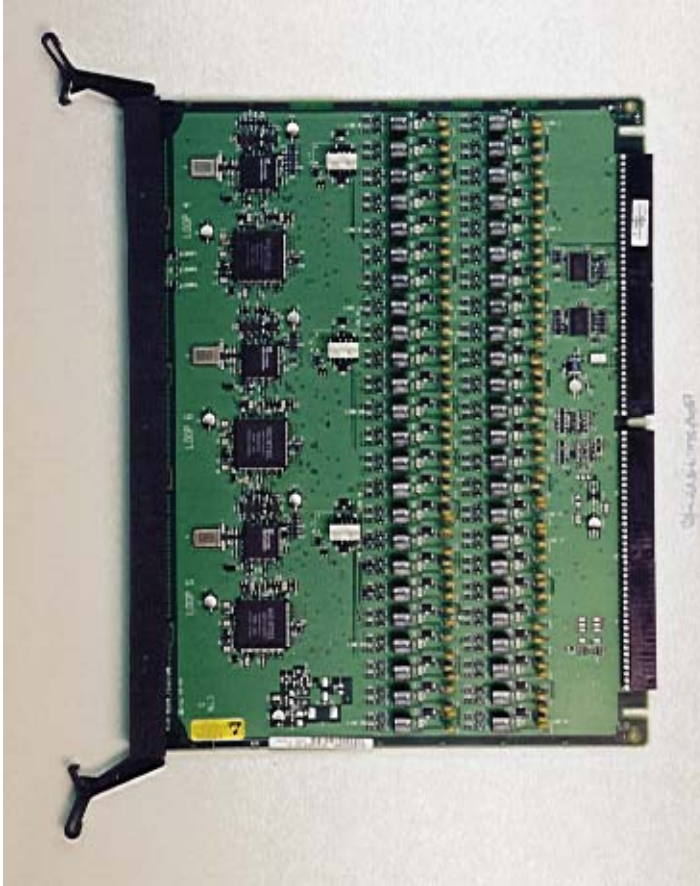

Figure 102: NTDK16 DLC
The NTDK16 digital line card is equipped with 48 identical units. Each unit provides a multiplexed voice, data, and signaling path to and from digital apparatus over a 2-wire full duplex 512 kHz time compression multiplexed (TCM) digital link. Each digital telephone and associated data terminal is assigned a separate terminal number (TN) in the system database, for a total of 96 addressable ports per card. Refer to Figure 102: NTDK16 DLC on page 369.